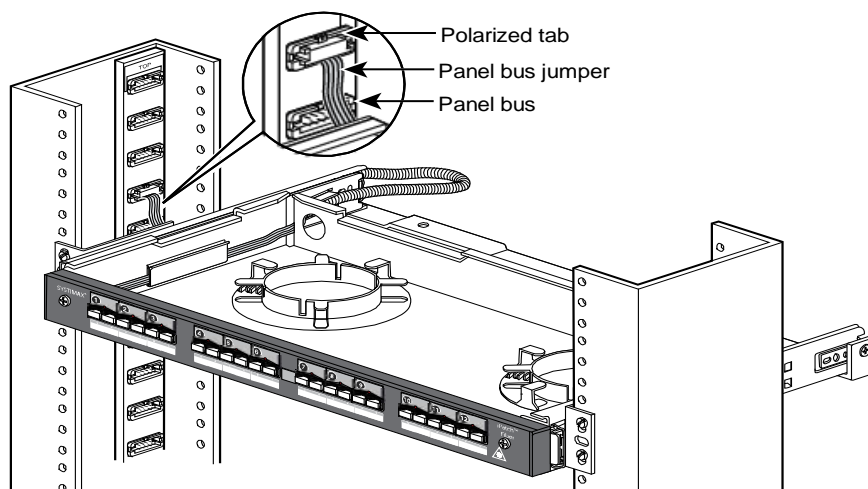

Figure 4 Connecting the Panel Bus Jumper to the Panel Bus
2. Connect the panel bus jumper to the nearest connector on the panel bus (Figure 4).